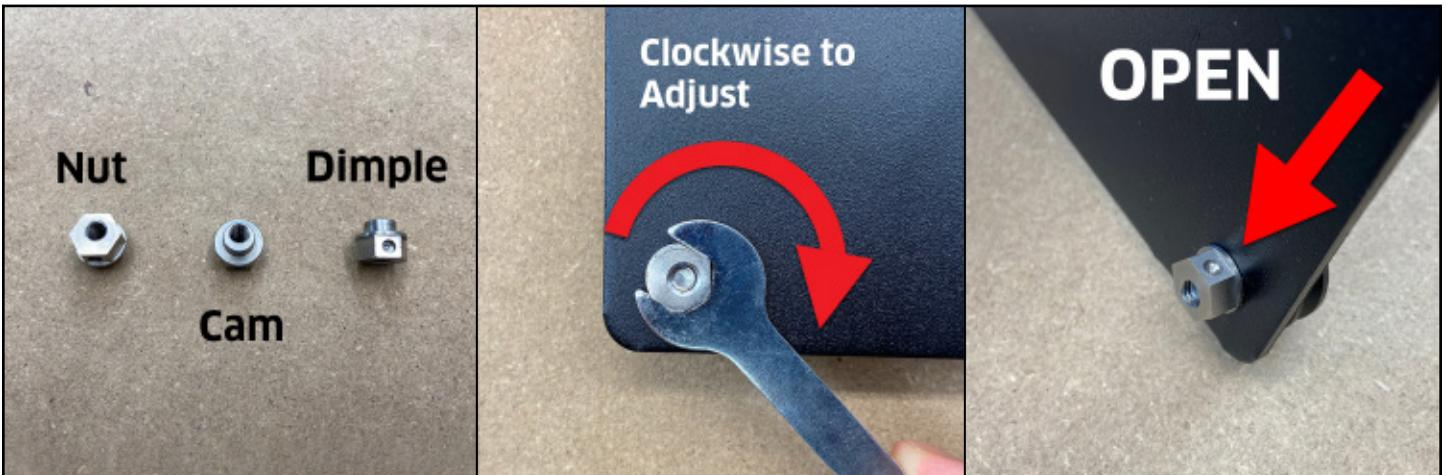

Figure 3-4
Our HD eccentric nuts, in combination with the attached V-wheel, operate as a cam, converting the rotational motion of turning the nut, into linear motion at the V-wheel. A dimple on one the side of the nut indicates the furthest point to center of the offset threads. When the dimple is facing UP, the distance between the top and bottom wheel is at its greatest and the V-wheels are OPEN. When the dimple is facing DOWN, the opposite is true, and they are CLOSED. See *Figures 3-4* and *3-5*.
2. Use the 10mm wrench and turn all six (6) eccentric nuts **CLOCKWISE** until the dimple is facing UP. Refer back to *Figure 3-4*.